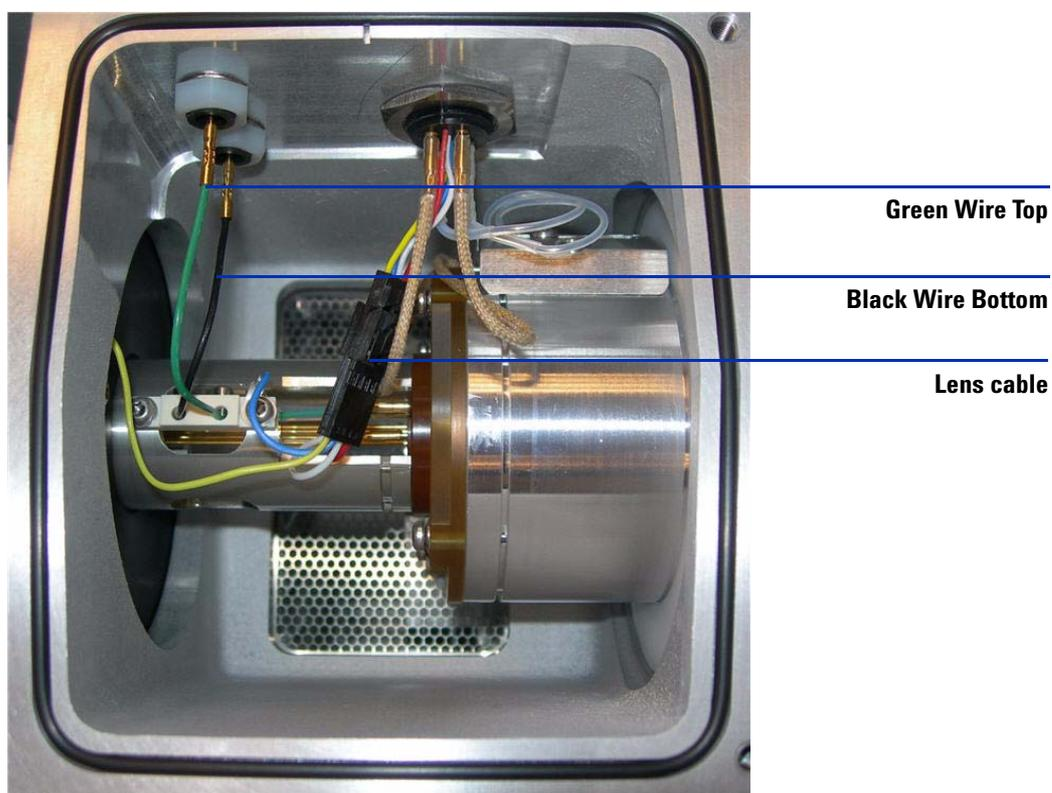

Figure 59 Optics assembly
- 6** Use your finger to push on the skimmer spacer to get the ion optics to pop out of the instrument. Be careful to catch it so it doesn't fall on the floor. See Figure 59.